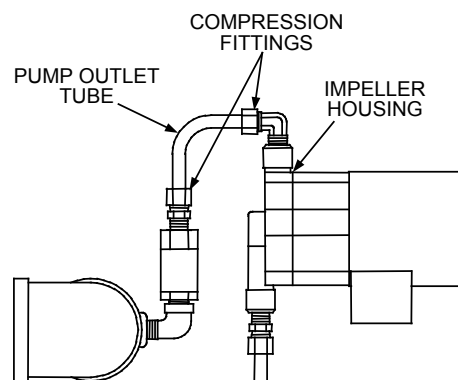

Figure 6.6
11. Loosen the compression fitting holding the hydraulic zero and control orifice tube assembly to the pump's impeller housing, (See Fig. 6.6).
12. Remove the compression fitting at the top of the impeller housing and remove the impeller housing, (See Fig. 6.6).